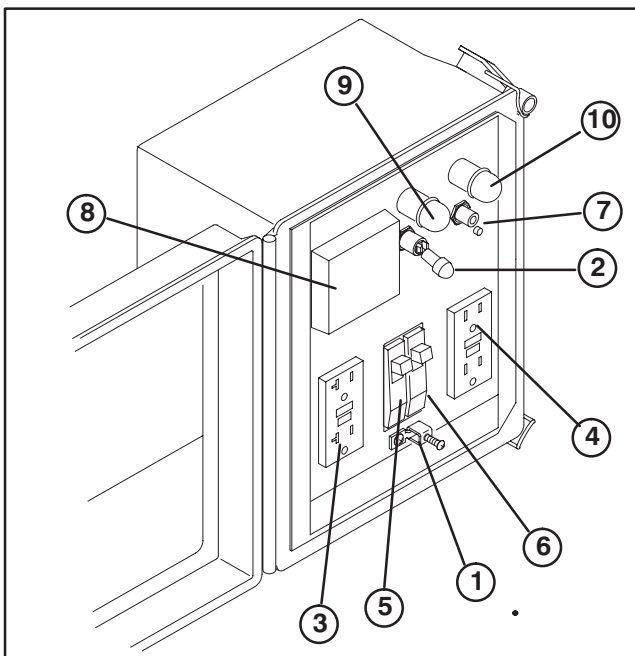

Figure 21
A grounding lug (Fig. 21) is provided on generator control panel for connecting generator to a grounding electrode conductor. Use a minimum of 10 gauge copper wire when connecting grounding lug to grounding electrode.
1. Switch control panel on-off switch to "OFF" position (Fig.21).
2. Loosen screw on control panel grounding lug (Fig.21).
6. Move generator ON/OFF switch to "ON" position (Fig.21).
- If amber reset indicator light (Fig.21) has come ON, remove all loads, move generator ON/OFF switch to "OFF" position and press the reset button before attempting to restart the generator.